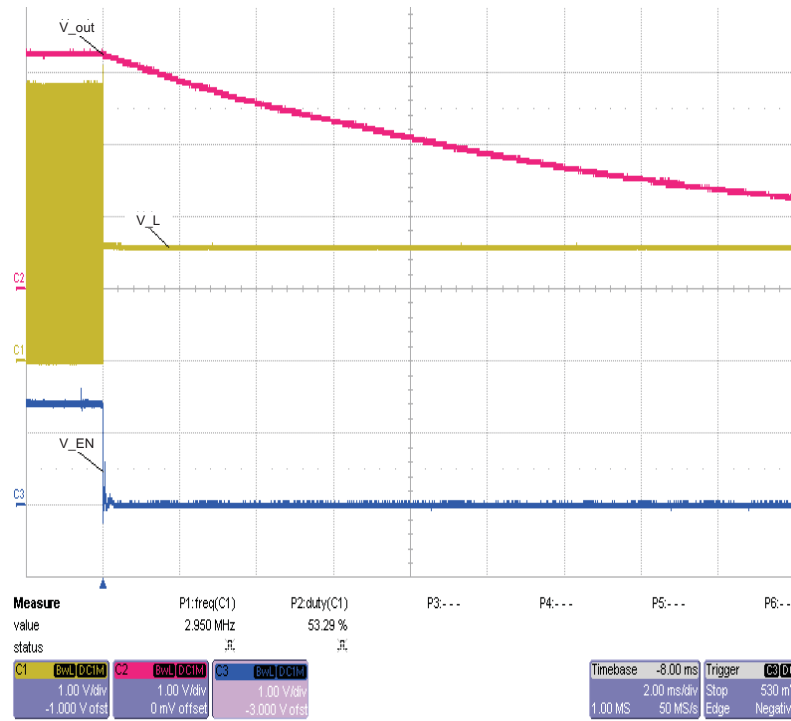

Figure 3. Power Down With Enable: Boost Switch Node, V_L, Output, Enable; Vin = 1.5 V, Vout = 3.3 Vdc With 49.9-Ω Load
4. Move shunt on JP1-ON to JP1-OFF, and verify that the boost converter is disabled (see Figure 3).